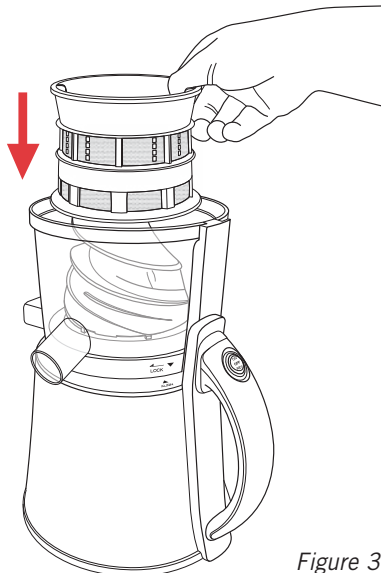

Figure 3
3. Place the filter basket over the juicing screw and into the juicing bowl and twist until firmly locked into place – figure 3.